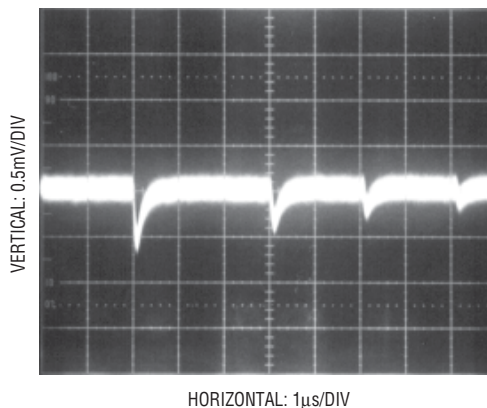

Figure 15. Adequate Reference Settling
1. Transients on the reference inputs caused by the capacitive switching currents must settle completely during each bit test (each 4 ACLK cycles). Figures 15 and 16 show examples of both adequate and poor settling. Using a slower ACLK will allow more time for the reference to settle. However, even at the maximum ACLK rate of 4MHz most references and op amps can be made to settle within the 1 μ s bit time. For example the LT1236 will settle adequately.